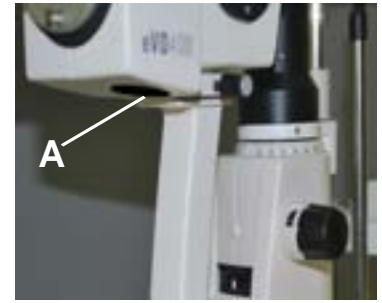

Figure. 12
1. Remove the Check Nut from the Inlet Tube for CCD Camera shown as (A)., Refer Figure. 12.